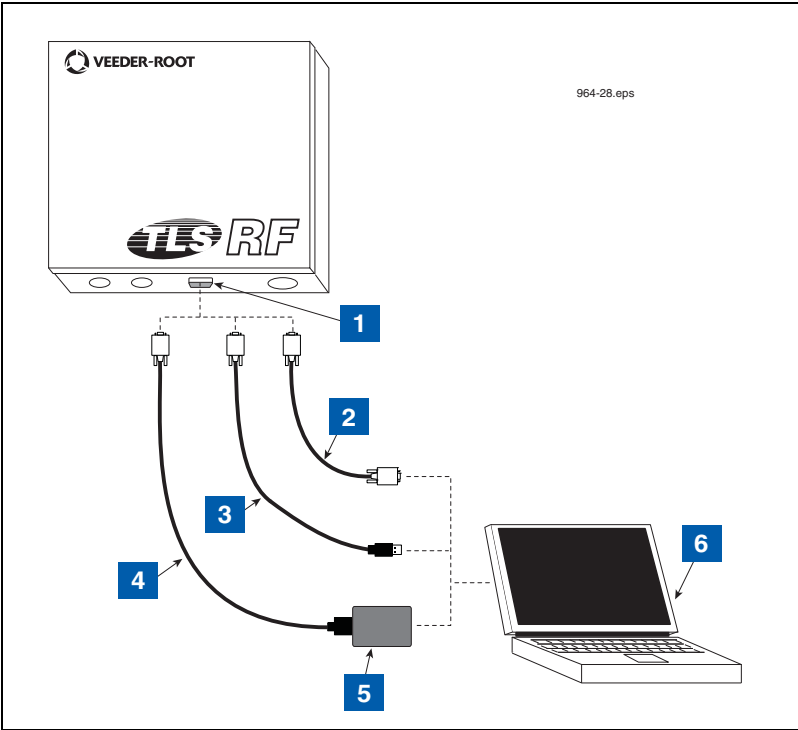

Figure 36. Laptop To TLS RF Example Connections
1. Attach your laptop to the TLS RF's RS-232 serial port (see Figure 36).
LEGEND FOR NUMBERED BOXES IN Figure 36